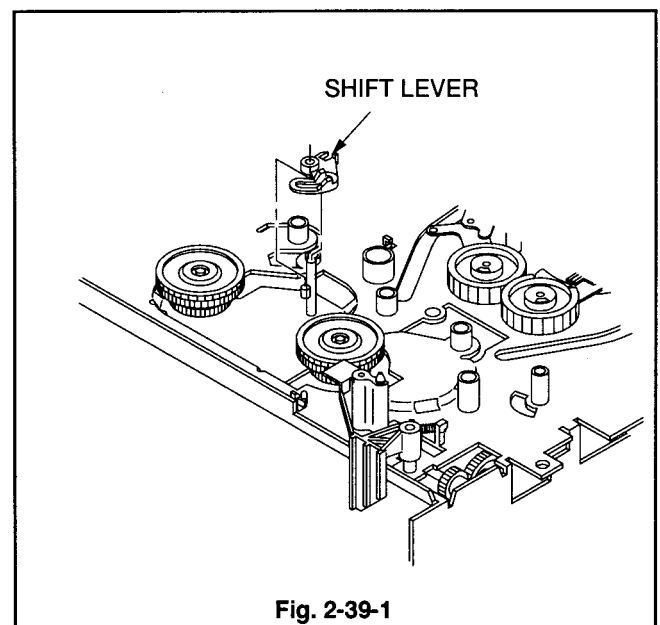

Fig. 2-39-1
- 1 Remove the SHIFT LEVER shown in Fig. 2-39-1.
- 2 Install the SHIFT LEVER shown in Fig. 2-39-1.